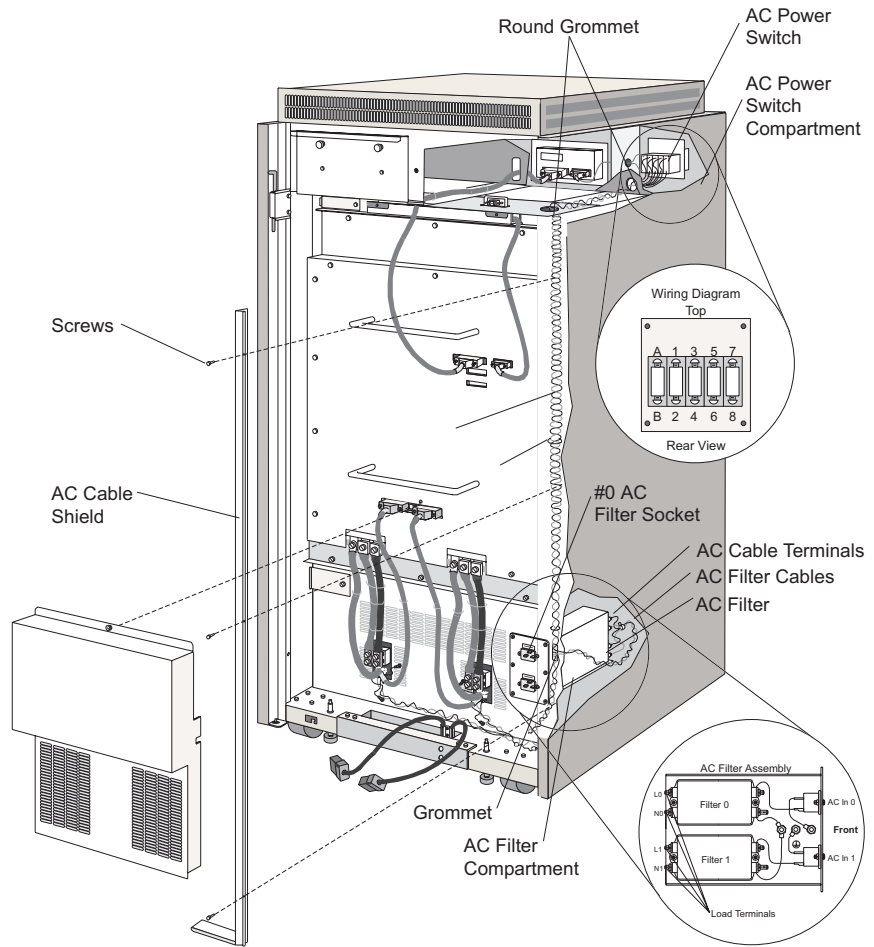

Figure 3-40. AC Filter Cable Assembly
Use the following procedure to remove an ac filter cable assembly. Refer to Figure 3-40 on page 3-83.
Use the following procedure to replace an ac filter cable assembly. Refer to Figure 3-40.
4. Route the ac filter cable assembly down along its path. Refer to Figure 3-40.
5. Cable tie all ac twisted-pair cables to the three eyelets located on the side of the Director chassis and the two inside the fan cabinet (Figure 3-40).
11. Remove the appropriate power sense twisted-pair cable terminals from the ac power switch. These are terminals #2 and #4 for sense #0, and terminals #6 and #8 for sense #1. Refer to the wiring diagram in Figure 3-40 on page 3-83. For each cable terminal: